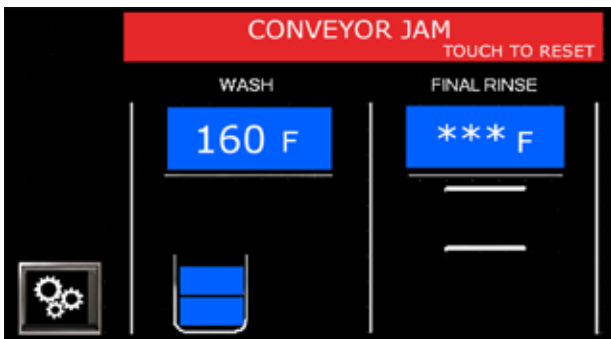

Fig. 24 -Conveyor Jam Fault
**CONVEYOR JAM TOUCH TO RESET** Object has jammed the conveyor. Open doors and remove jam, then 'TOUCH TO RESET' on the status bar to clear the fault. Remove racks for rewashing. Status bar says 'READY'. Press green start button to resume normal operation, Fig. 24.